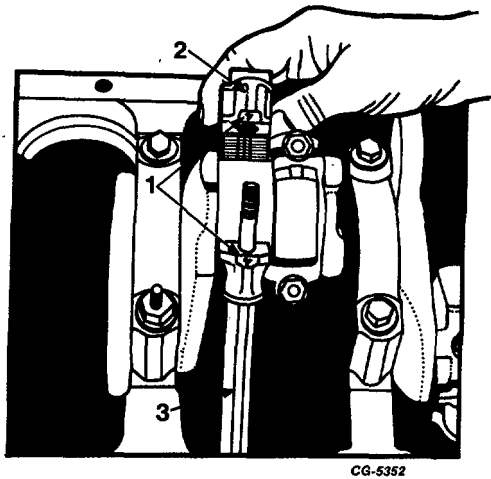

Fig. 59 Connecting Rod Cap Removal
66. Remove the cap and push the connecting rod and piston assemblies from the cylinder bore, Figures 59 and 60. Replace the cap and the bearing inserts on the rod so the numbered sides match. The connecting rod and piston assemblies are numbered so they can be reinstalled in their respective cylinders.